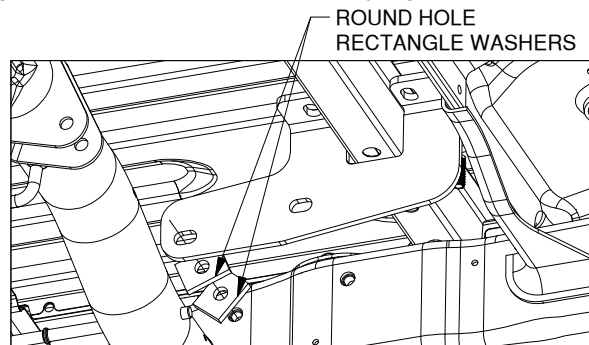

Figure B2: View looking up at passenger side frame.
- 3. Install the front brackets.** Locate the two front brackets, four round hole rectangle washers, two M12 x 45mm hex head bolts (longer), two M12 x 35mm hex head bolts (shorter), four 1/2" split lock washers, and four 1/2" flat washers. Due to curvature of the frame the forward hole in each front bracket will need to be supported with two round hole rectangle washers. See Figure B2. Using a 1/2" lock washer and 1/2" flat washer, thread the longer (45mm) M12 hex head bolt into the frame through the forward holes in the brackets and through both round hole rectangle washers. Again, using a 1/2" lock washer and 1/2" flat washer, thread the shorter (35mm) M12 hex head bolt into the frame through the remaining holes. See Figures B3 and B4. Do not fully tighten at this time.